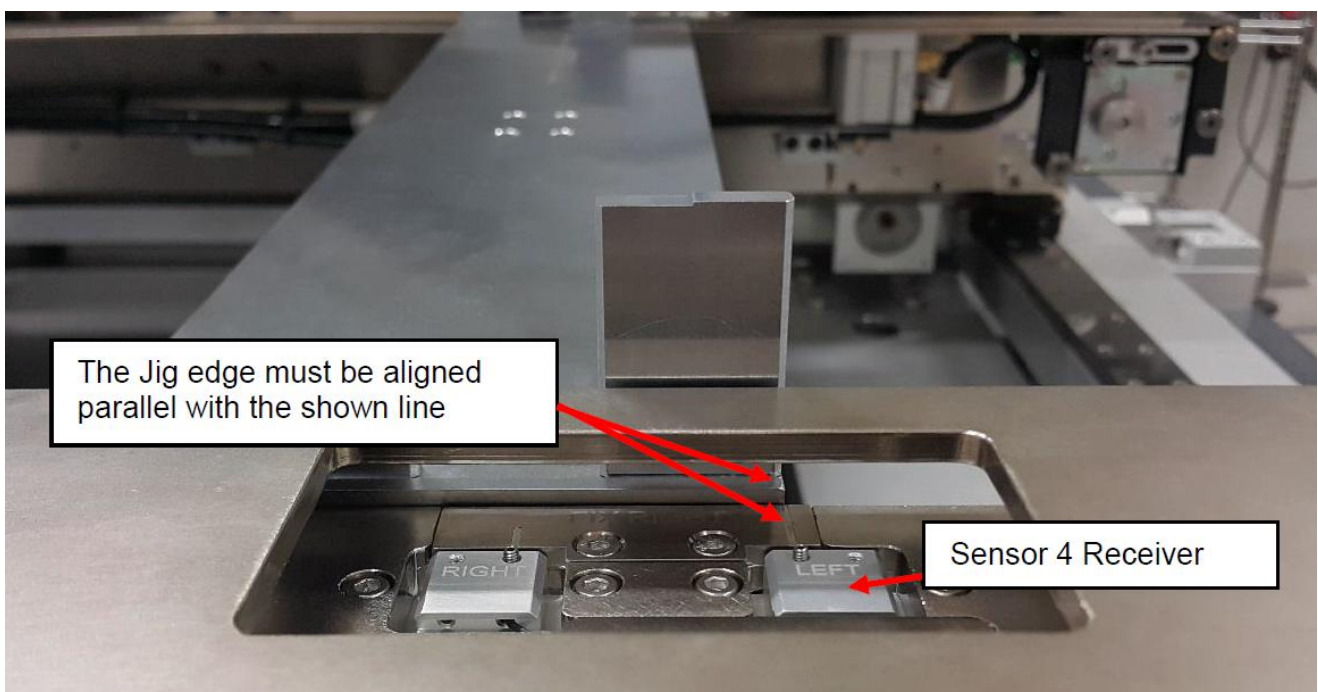

Figure 8 Var Mag Filter Jig Assembly
8. Place the 4JACM-A030 at the Right Outer Barrier Side and align it parallel with the 4th Emitter and Receiver as shown in the Figure 8 and close the clammer.